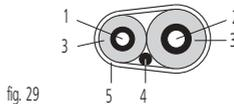

fig. 29
- Remove the lower frontplate (1), punch a hole in the knock hole and cut the hole (2) all the way to the slit.
- Attach the 3 sealing pads (optional parts) (3) on the wiring mounting plate (optional parts) (4) corresponding to the over-lapped area of the front plate.
- Pick the transmission line from the middle positioned conduit hole on the left side plate, or from the front position of the main unit (after binding it to the piping with finishing tape as in figure 29).